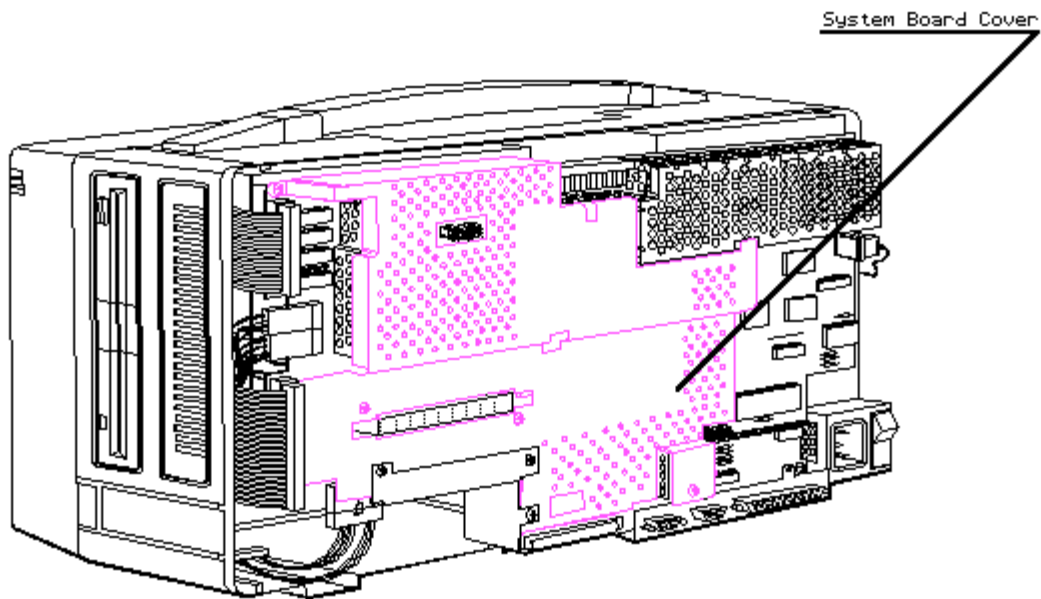

Figure 8-9. System Board Cover Location
6. Locate the system board cover shown in Figure 8-9.